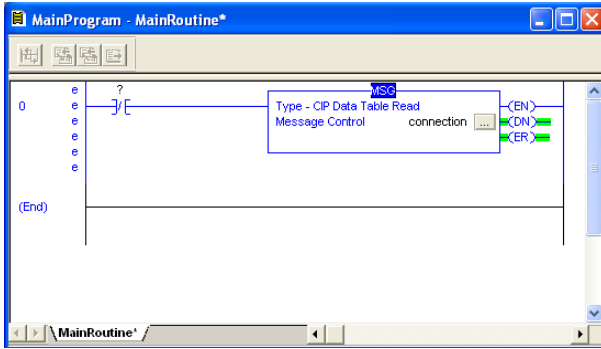

Figure 100: MainRoutine
- e) Click “OK” to close the MSG Configuration dialog. At this stage, MainRoutine should look like Figure 100.